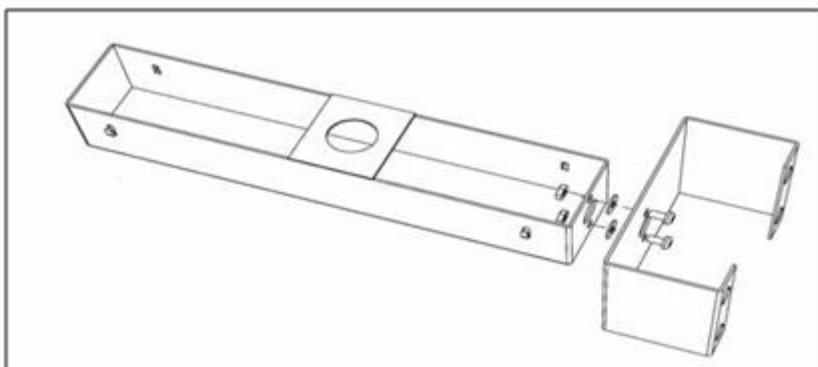

Figure 9: Digital Clock Mounting Kits
3. Join the Ethernet Clock Mount and the Ethernet Clock Cantilever Wall Mount using a #2 Phillips screwdriver and a $\frac{3}{8}$ " wrench. Make sure that the two washers are fitted between the Clock Mount and the Cantilever Wall Mount. Refer to Figure 9.